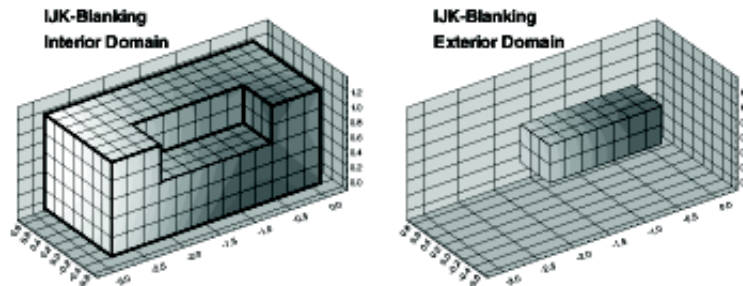

Figure 19-6. IJK Blanking with Interior domain (left) and Exterior domain (right).
- **Interior** - Cells within the specified index ranges are blanked. Those outside are plotted. This creates a “hole” in the zone. The left side of Figure 19-6 shows an ordered zone with IJK Blanking with Interior domain.
- **Exterior** - Cells outside the specified index ranges are blanked. Those inside are plotted. Exterior plots a sub-zone of the zone. The right side of Figure 19-6 shows an ordered zone with IJK Blanking with Exterior domain.